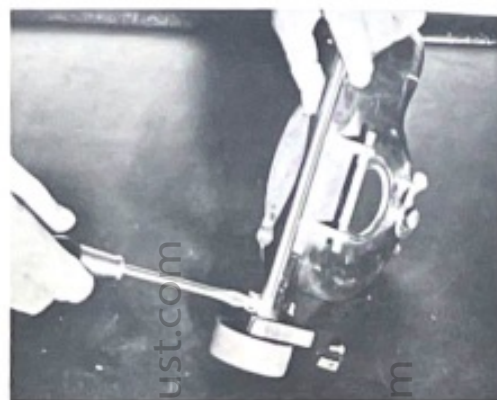
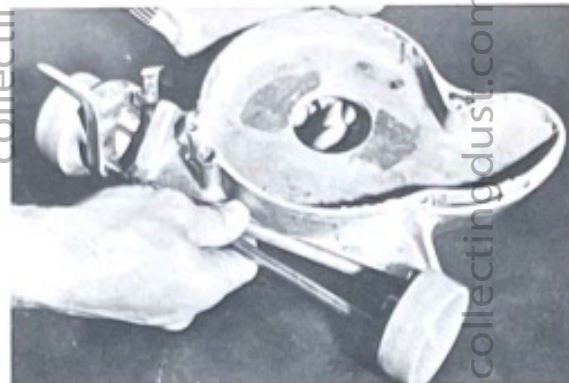

Figure 1-46. Removing front shaft clamps.
Figure 1-47. Removing wheel bracket shaft from fan housing.
(2) Move the toe touch control to the No. 7 position. Remove the two screws (65) and front shaft clamps (64), as shown in figure 1-46, that secure the assembled front wheels and bracket shaft to the fan housing. Pull the end of the shaft opposite the toe touch control out first as shown in figure 1-47 and move the shaft toward the toe touch control to release the ratchet lock (58, fig. 1-3) and spring (59).